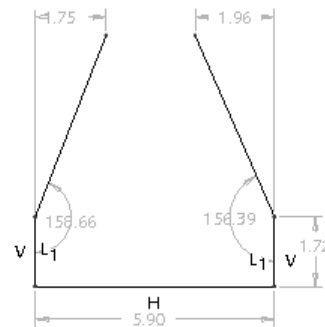
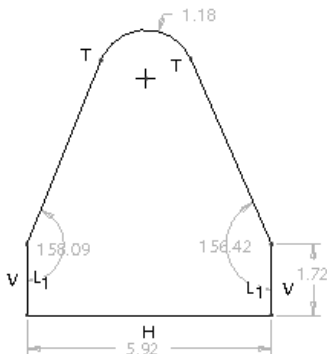

Figure 2-24 Partial sketch with weak dimensions
Figure 2-25 Sketch with arc
- Draw an arc and a circle, refer to Figures 2-25 and 2-26.
Figure 2-24 shows the lines that you have drawn. Notice that when you end the line creation by pressing the middle mouse button twice, all the constraints that you have drawn become visible, refer to Figure 2-24. Now, you need to draw the arc and the circle.
The horizontal constraint **H** and the vertical constraint **V** appear in orange color. The orange color of the constraint indicates that the constraint is strong. This means you cannot change the orientation of the line until you delete the constraint applied to the line. The constraints displayed in grey color indicates that they are weak constraints, refer to Figure 2-24.
- As the tangent constraint appears, click to end the arc creation. You will notice that the tangent constraint with the symbol **T** appears at the endpoints of the arc, as shown in Figure 2-25. Press the middle mouse button to end the arc creation.
Note that in Figure 2-24, there are some weak dimensions that are not displayed in Figure 2-25. This is because weak dimensions get deleted without confirming their deletion. Hence, after drawing the arc, some weak dimensions get deleted automatically.